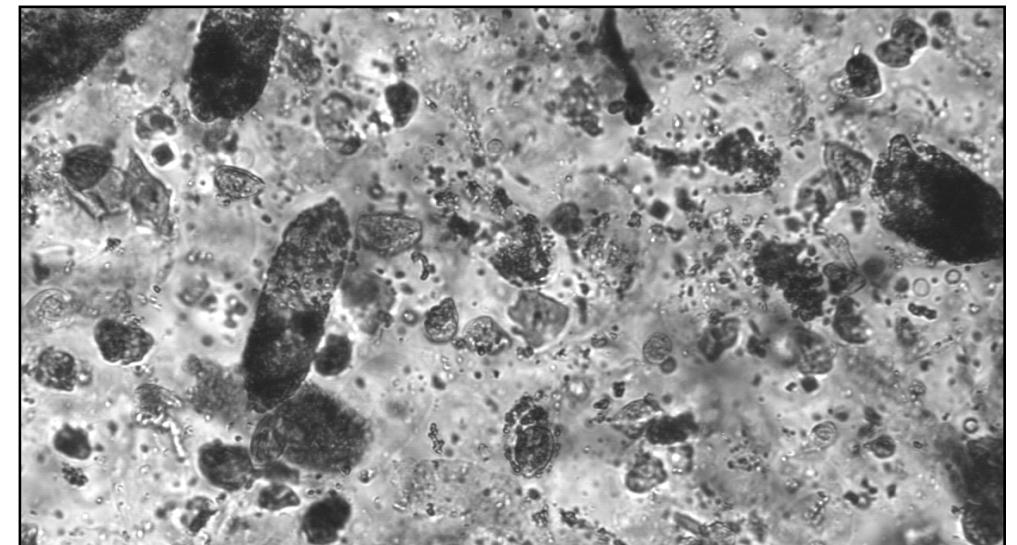

Figure 11: A crowded view field image without automatic tags added
- ▶ the image is so crowded with particles that particle detection is restricted (see Figure 11).
- View field images that are so crowded with particles that it is difficult to distinguish between various elements are considered **Images for review** (see Figure 11)—they have **Yes** in their **For review** column in the Image List, and the message **Review of images necessary!** is displayed in red in the SVE header.